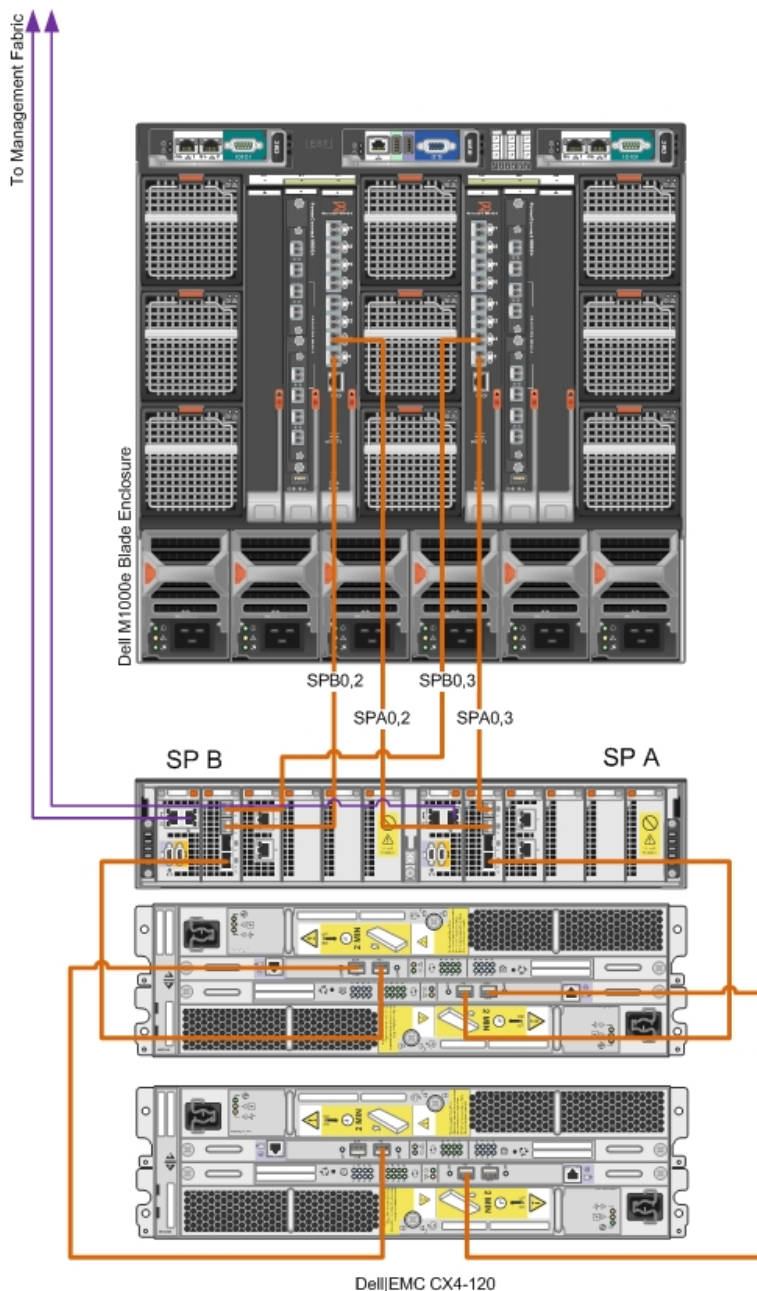

Figure 7: Storage Connectivity
Each Brocade M5424 I/O module contains eight 8 Gbps ports. Each Service Processor (SP) on the CX4-120 array has four ports. For redundancy, each SP is connect to both of the I/O modules in the blade chassis. Connections from each I/O module are split between both of the SPs to allow for failover in case of SP failure. Figure 7 illustrates how a Dell | EMC CX4-120 array is connected to the Dell PowerEdge M1000e chassis. Additional Fibre Channel ports can be added to the array using UltraFlex I/O modules.